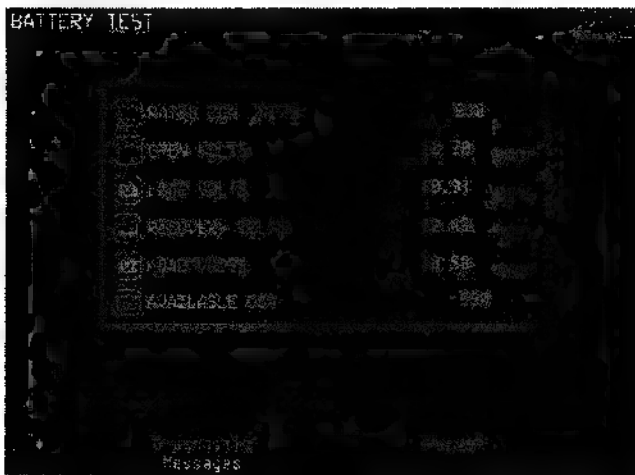

Figure 2-13
2. The test will run and the results screen will appear (see Figure 2-13).